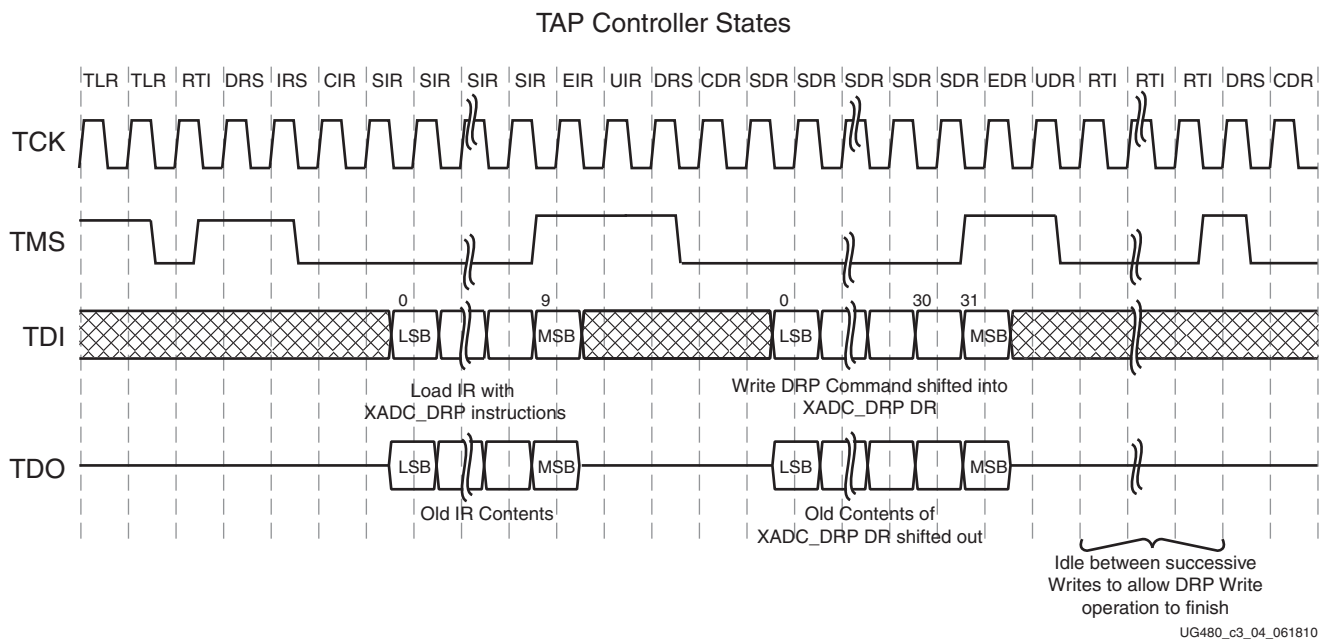

Figure 3-4: XADC JTAG DRP Write
Figure 3-4 shows a timing diagram for a write operation to the XADC DRP through the JTAG TAP. The DRP is accessed through the XADC Data Register (XADC DR). Before the XADC DR is accessed, the instruction register (IR) must first be loaded with the XADC instruction. The controller is placed in the IR-scan mode, and the XADC instruction is shifted to the IR.
If multiple writes to the XADC DR are taking place, it might be necessary to idle the TAP controller for several TCK cycles before advancing to the next write operation (see Figure 3-4). The idle cycles allow the arbitrator to complete the write operation to the XADC DRP register. If DCLK is running approximately 6 x TCK, these idle states are not necessary. However, inserting 10 or so idle states ensures all transfers are inherently safe.